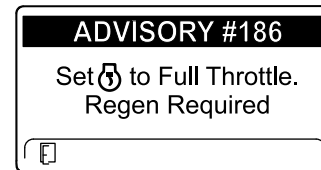

Figure 52
**Note:** If the engine exhaust temperature is too low, the InfoCenter displays ADVISORY #186 (Figure 52) to inform you to set the engine to full throttle (high idle).